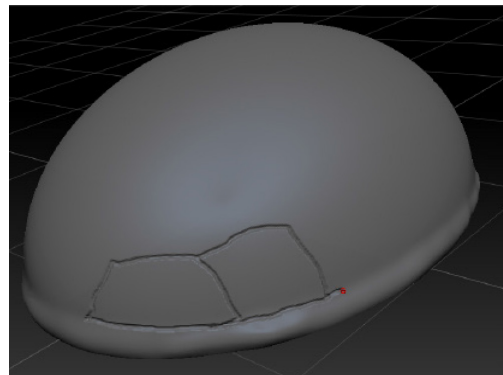

Figure 3-60 A pattern created on the upper part of the *turtle shell* using the **Standard** brush
4. Press and hold the left mouse button and drag the cursor on the upper part of the *turtle shell* to create a pattern, as shown in Figure 3-60.